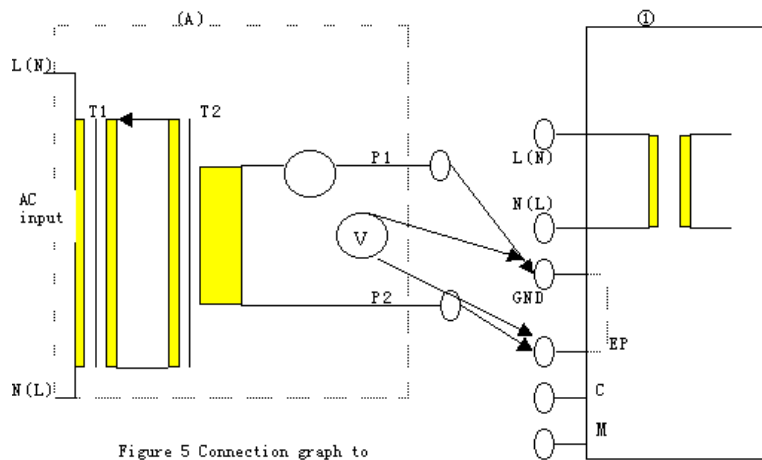

Figure 5 Connection graph to test grounding resistance
2.2.5.1 Connection graph for testing ground resistance is shown in figure 5: